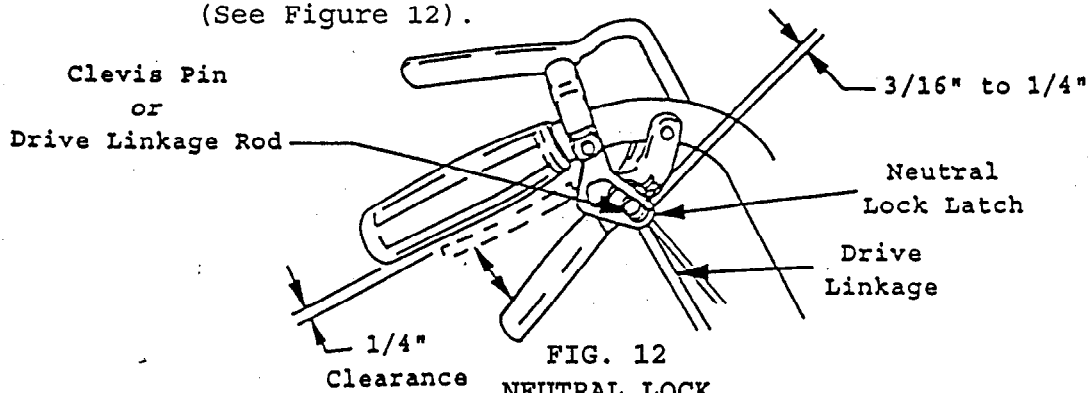

FIG. 12
- c) Adjust drive linkage length by threading into or out of the swivel until there is a $\frac{3}{16}$ " to $\frac{1}{4}$ " clearance between the linkage assembly and the bottom of the slot in the neutral lock lever. (See Figure 12).
- 3.8.6 Adjust brakes by adjusting wingnut on upper end of each brake rod so that when brakes are engaged there is approximately 1/4" of clearance between ends of drive levers and handle grips (See Figure 12).